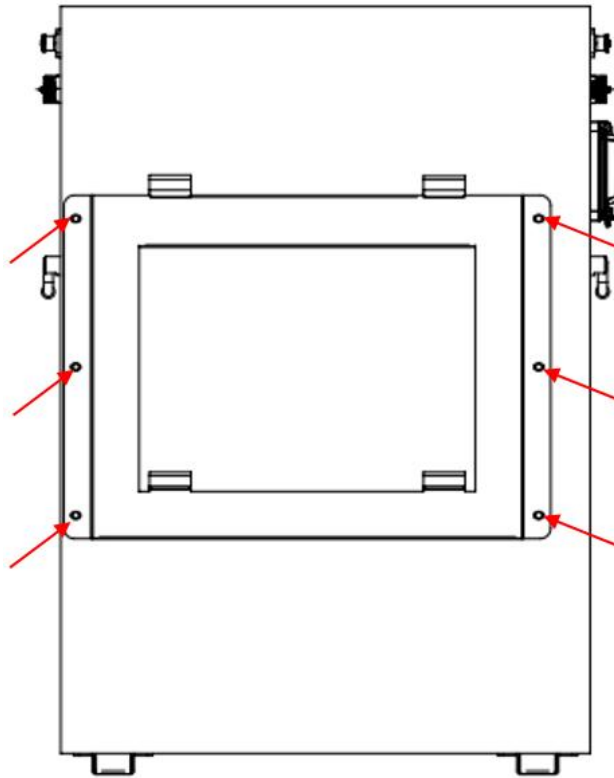

Figure 5-1
a) Use the 6 screws of M6*12 to fix the backplane to the back of the battery as shown in Figure 5-1.